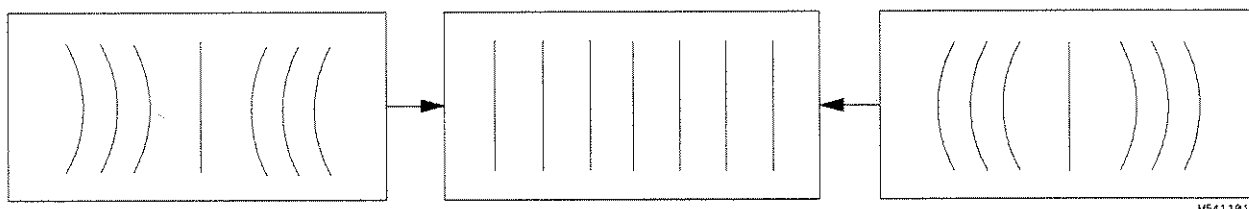

Figure 4-2. PIN AMP Adjustment
7. Adjust **PIN AMP** (RV506) on left hand side PC board to eliminate pincushion distortion in the vertical lines of the cross-hatch pattern. Refer to figure 4-2.